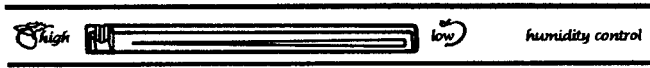

Figure 9.
- a. Slide control to high humidity setting for leafy vegetables such as lettuce, spinach or cabbage. See Figure 9.
- b. Slide control to low humidity setting for produce with skins, such as apples, oranges or tomatoes. See Figure 9.